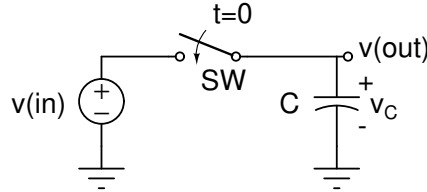

Figure 3
6. Consider the schematic shown in figure 3. Switch 'SW' is closed at time $t=0$.